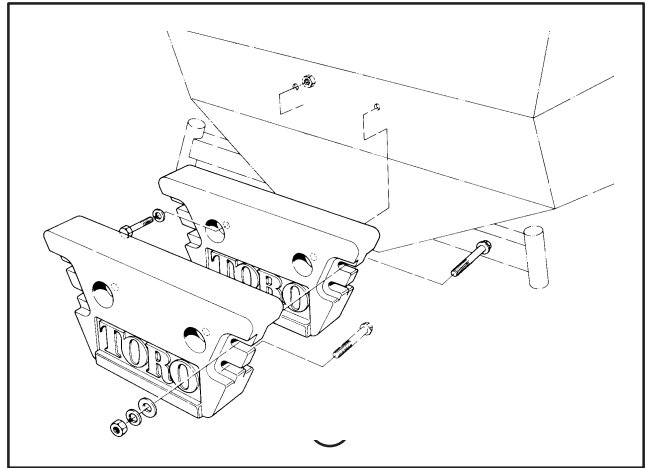

Figure 18
MOUNT REAR WEIGHTS (Fig. 18)
1. Mount rear weights to back of machine as shown in figure 18. Order kit #24-5780 (includes 2-weights, mounting hardware and installation instructions) from your Authorized Toro Distributor.